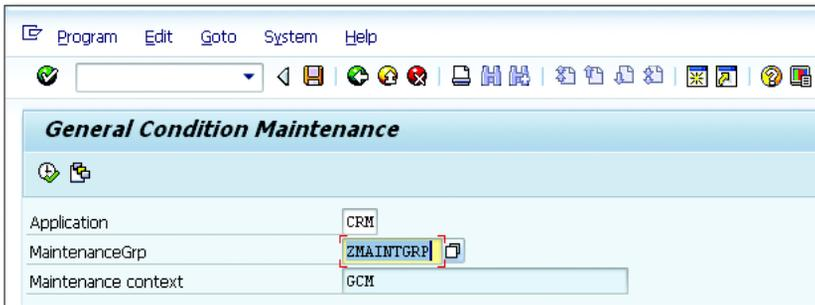

Figure 4.41 General Condition Maintenance Screen
10. Verify the condition record load from SAP ERP (material determination) to SAP CRM (product substitution), and access Transaction /SAPCND/GCM (Maintain Conditions) (see Figure 4.41).